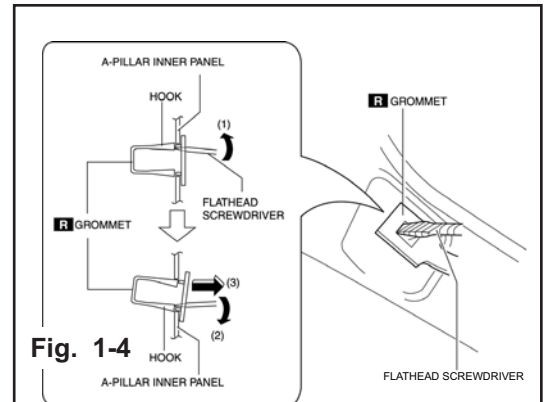

Fig. 1-4
- d) Move the hook in the direction of arrows (1) and (2) using a Flat-head screwdriver and detach it from the A-pillar inner panel. (Fig. 1-4)
- e) Remove the grommet in the direction of the arrow (3). (Fig. 1-4)